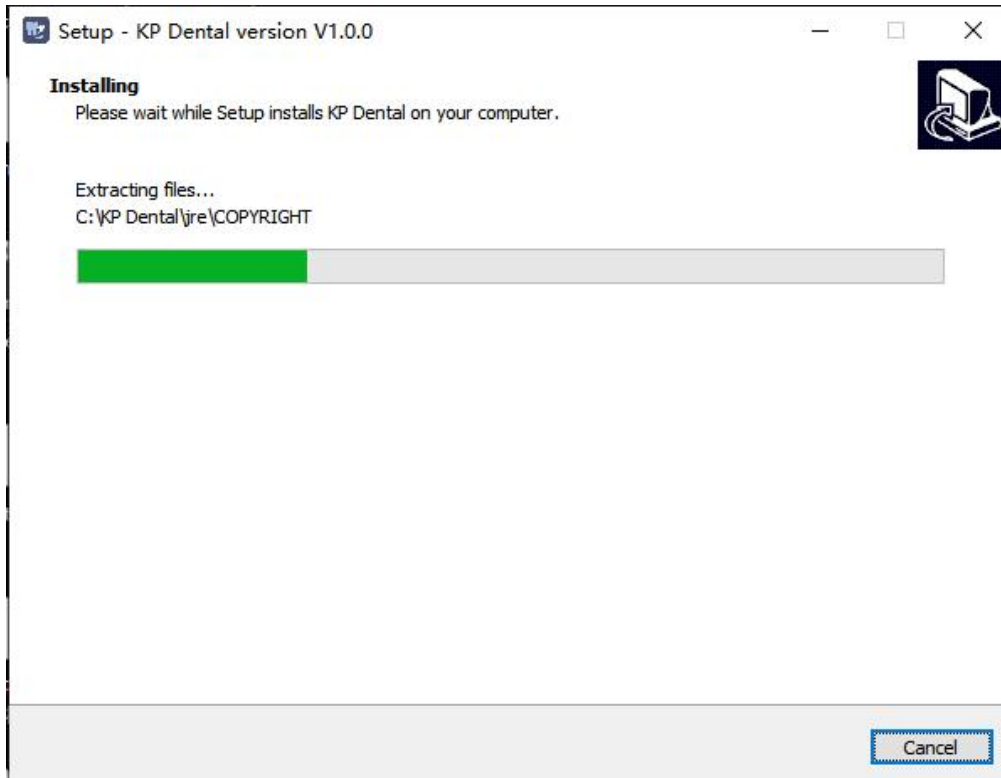

Figure 8
3.1.8 After the “Install” button is clicked, the program starts to install. The user just waits for the installation to complete, as shown in Figure 8: